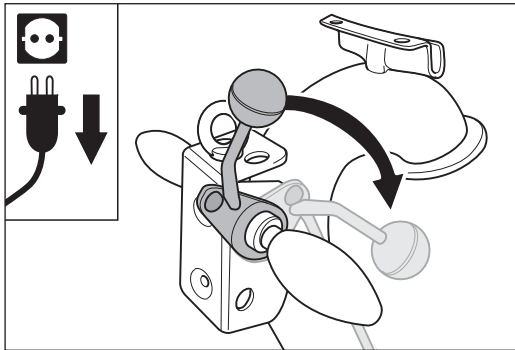

Fig. 23 Turn the lowering lever at the handle downwards.
- 3 Turn the lowering lever at the handle downwards (Fig. 23).